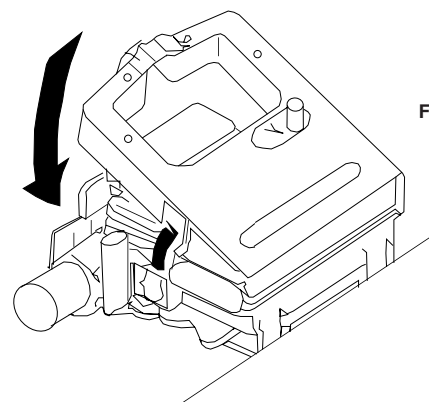

Figure 1
- 7) Lower the front of the cartridge over the print head, making sure that the locking tabs on each side of the cartridge are engaged. Refer to Figure 1.